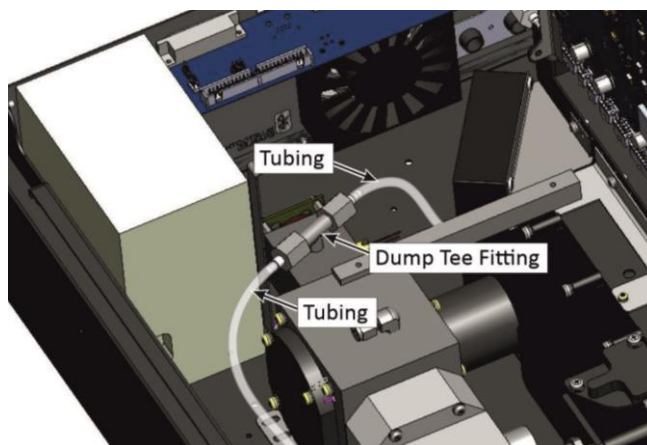

Figure 143 – Reaction Cell Tee Fitting
3. Refer to Figure 143. Disconnect the tubing from the tee fitting on top of the dump of the reaction cell. Disconnect the tubing from the dump tee fitting on top of the dump.